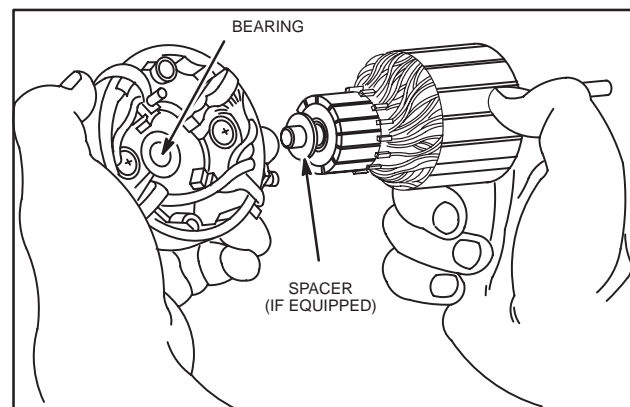

Fig. 34 – Assembling Armature to End Cap Typical
5. Install armature in brush end cap, Fig. 34, and remove brush retainers.